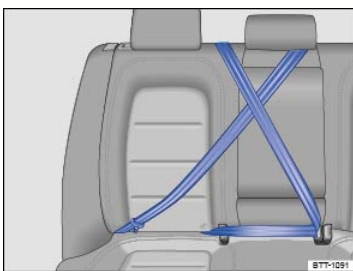

Fig. 69 Keep unused safety belts away from children in child restraints.
You must take special precautions when installing a LATCH/UCRA child restraint behind the front passenger or driver seats. Always route the center safety belt and the unused safety belt for the seating position where the child restraint is being installed securely out of the child's reach. Securing the safety belts will help prevent a child from playing with an unused safety belt and becoming entangled with it ⇒ Fig. 69.
- Route the safety belt around the head restraint for the center seating position ⇒ *Fig. 69*.
- Buckle the safety belt ⇒ *Fig. 69*.
You must take special precautions when installing a child restraint with the vehicle safety belt or with LATCH/UCRA lower universal anchorages behind the front passenger seat or behind the driver seat. Always route the center safety belt and the unused safety belt for the seating position where the child restraint is being installed securely out of the child's reach. Securing the safety belts will help prevent a child from playing with an unused safety belt and becoming entangled with it → *Using a child restraint on the rear seat*, → *Fig. 69*.
You must take special precautions when installing a child restraint with the vehicle safety belt or with LATCH/UCRA lower universal anchorages behind the front passenger seat or behind the driver seat. Always route the center safety belt and the unused safety belt for the seating position where the child restraint is being installed securely out of the child's reach. Securing the safety belts will help prevent a child from playing with an unused safety belt and becoming entangled with it ⇒ *Using a child restraint on the rear seat*, ⇒ *Fig. 69*.